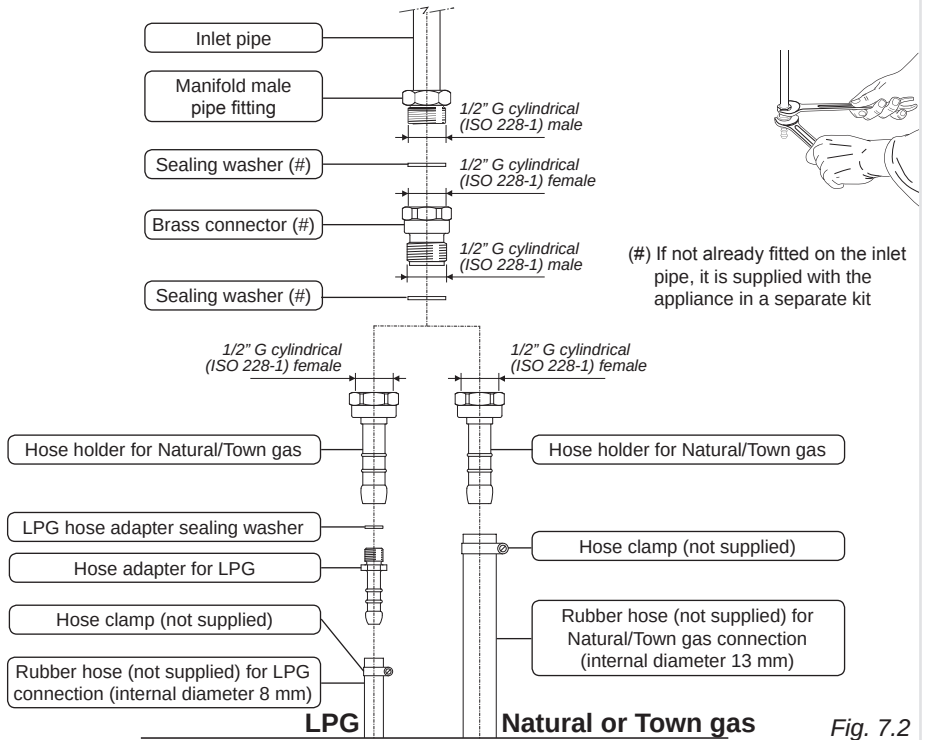

Fig. 7.2
1. If not already fitted, fit the Natural/Town gas hose holder on the inlet pipe, making sure that you place the sealing washer between them (as shown in Fig. 7.2).
1. If not already fitted, fit the LPG hose holder on the inlet pipe, making sure that you place the sealing washer between them (as shown in Fig. 7.2).
- use two spanners when fitting the parts (Fig. 7.2).